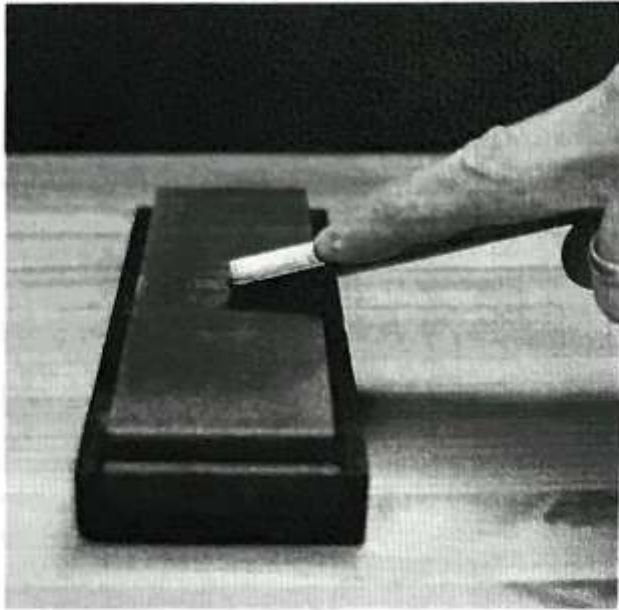

Fig 12.10 Working across the benchstone with a gouge; the stone is orientated on the bench square-on to the user
- Gouges are presented at right angles (square-on) to the stone (Fig 12.10).